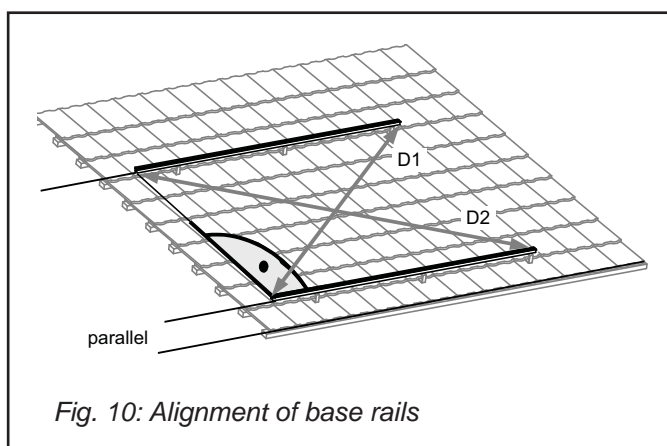

Fig. 10: Alignment of base rails
- Align the rails so that they lie in parallel to roof tiles. The diagonal between the rails must be of the same length: $D1 = D2$ (Fig. 10).